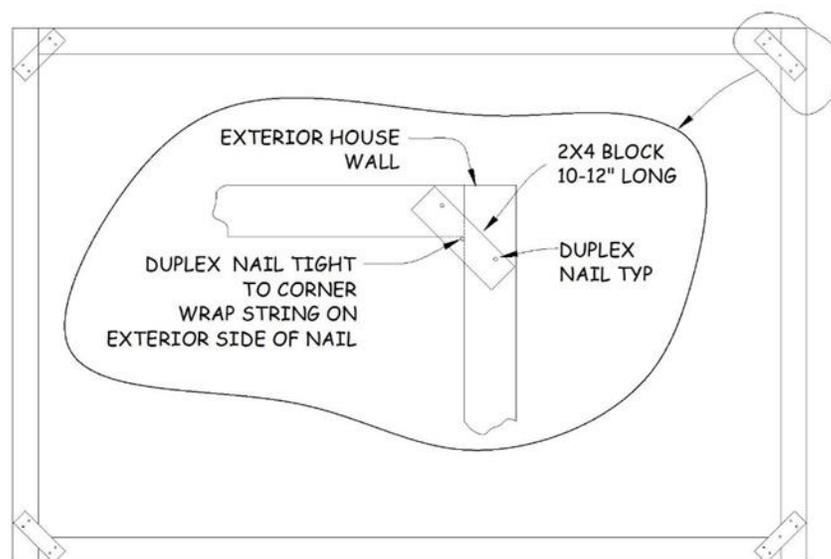

Figure 5-4. Installing String Line.
4. Place the 2x4 piece on top of the 2x6 upper plates at roughly a 45° angle so that the protruding end of the 16d duplex nail rests tightly against the “inside” corner of the upper plates of both walls (see Figure 5-4).